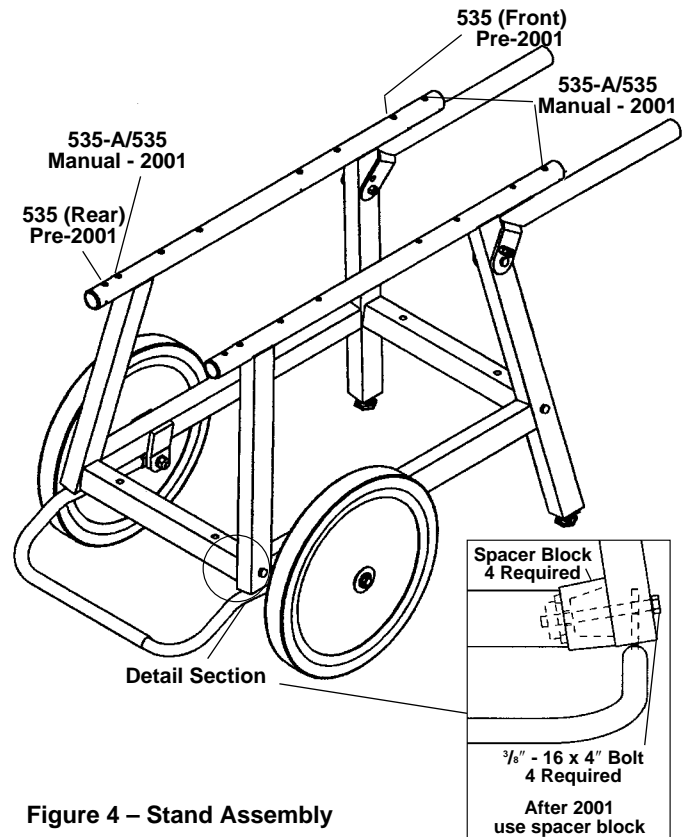

Figure 4 – Stand Assembly
3. Assemble stand with “inside” decals located towards the inside of the stand (Figure 4).
4. Insert stand stop tabs into bottom of the legs as shown in the detail drawing. Use the four (4) $\frac{3}{8}$ " - 16 x $2\frac{1}{2}$ " hex bolts to secure the legs to the cross-member. Adjust the two halves of the stand stop to the
CAUTION For proper balance and operation, RIDGID machines must be mounted through the appropriate holes in the legs (Figure 4).